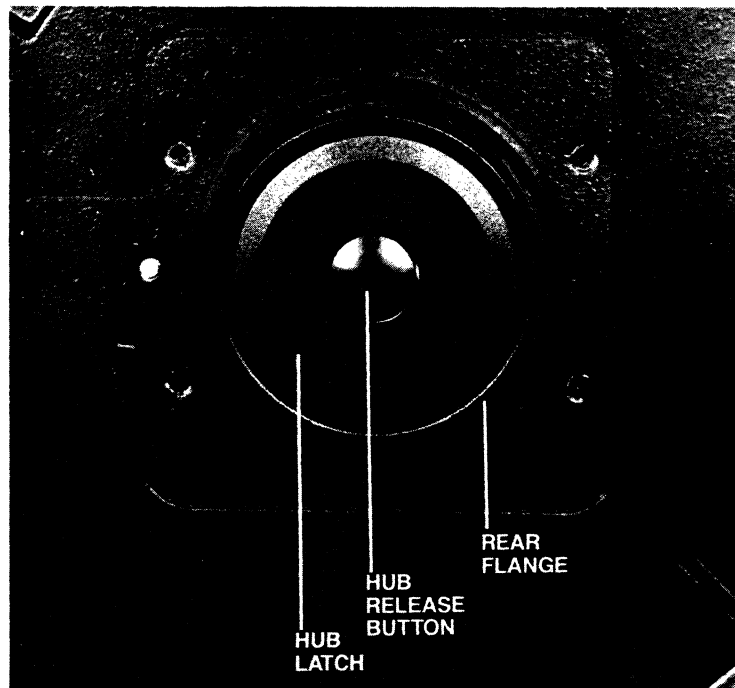

Figure 3-2. Rear Flange, Hub Latch, and Hub Release Button
2. Unlock the hub latch by pressing the hub release button (Figure 3-2) on the face of the supply reel hub.
3. Mount the supply reel onto the hub (clear plastic side of the reel facing you). The back of the reel will be pressed against the rear flange (Figure 3-2). If a write-enable ring is present on the reel, the flange will be pressed in. The flange will be inserted into the groove at the back of the reel if a write-enable is not present.